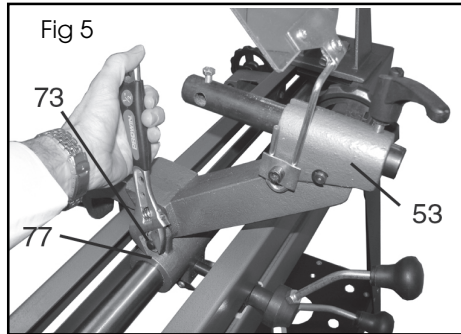

Fig 5
1. Position the copy follower body (53) over the lead screw 3-way trunnion (77) and connect it using the copy pivot stud (73) and tighten the nuts on each side as shown in Fig 5.
2. Connect the copy tension spring (68) to the locating hole in the spring attachment plate (55).